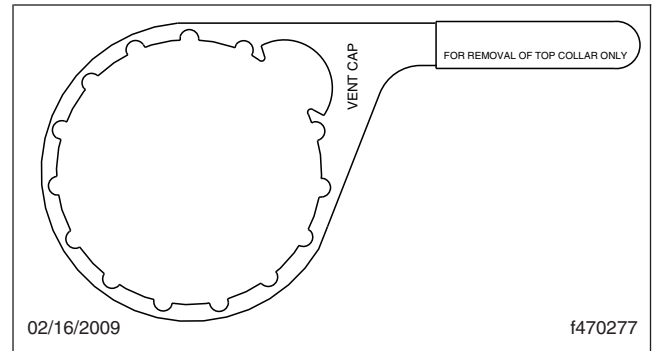

Fig. 21.3, DAVCO Collar Wrench
4. Using a DAVCO collar wrench (Fig. 21.3), remove the clear cover and collar.